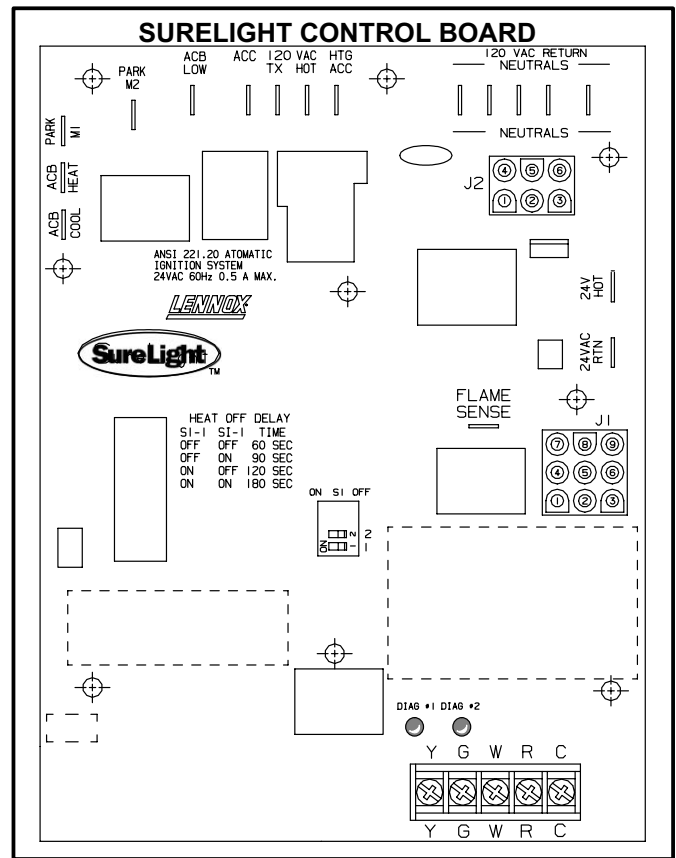
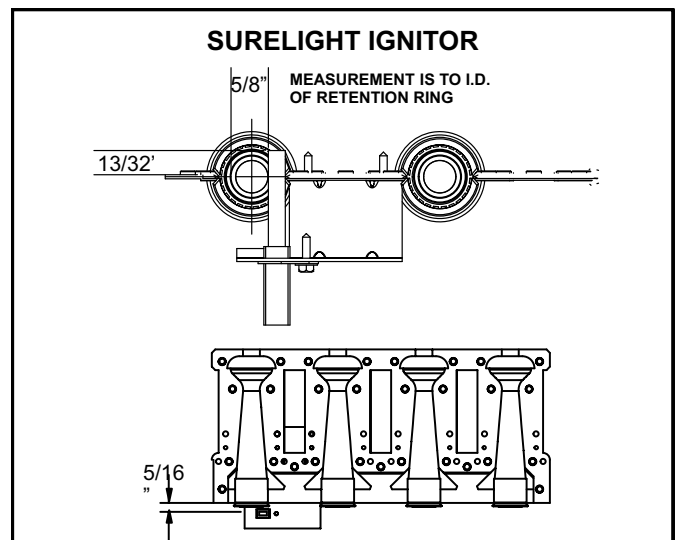

FIGURE 8
FIGURE 9
G32V-1 through -4 units are equipped with the Lennox SureLight ignition system. The system consists of ignition control board (figure 8 with control terminal designations in table 1) and ignitor (figure 9). The board and ignitor work in combination to ensure furnace ignition and ignitor durability. The SureLight integrated board controls all major furnace operations. The board also features two LED lights for troubleshooting (and two accessory terminals rated at (4) four amps. See table 8 for troubleshooting diagnostic codes.